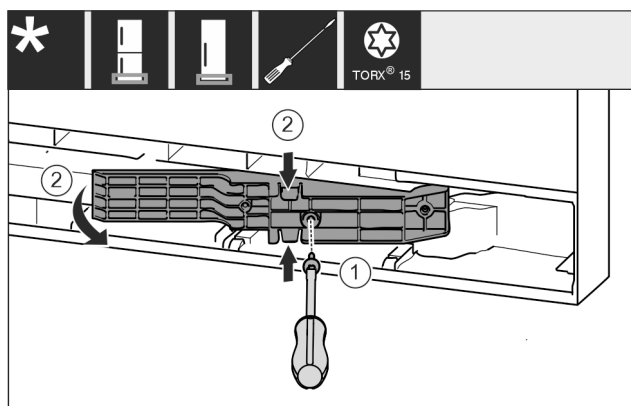

Fig. 18 *
- Loosen the screws with the T15 screwdriver. Fig. 18 (1)*
- Pull out the adapter. Fig. 18 (2)*